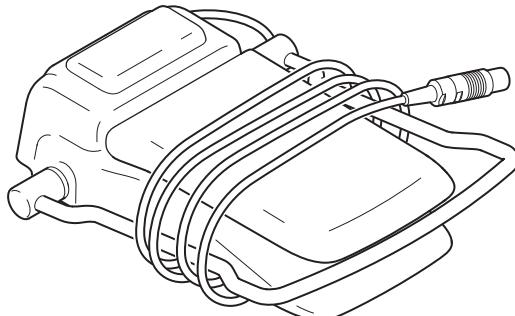

Figure 125 – Foot Pedal Cord Wrap
2. If using a foot pedal with a toe loop, adjust the toe loop to the STORAGE position and wrap the cord around the toe loop as required (Figure 125).